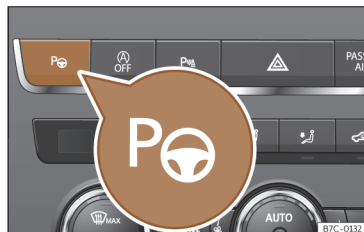

Fig. 170 In the upper part of the centre console: button to switch on the Park Assist system.
The components of the Park Assist system are the ultrasonic sensors located in the front and rear bumpers, the **P** and **Fig. 170** to switch the system on and off and the messages on the instrument cluster display.
After activating the Park Assist system and after detecting a parking space, the display on the instrument panel proposes a parking mode. The Park Assist system selects the parking mode automatically. The selected mode is shown on the instrument panel display >>> **Fig. 171**. The reduced display of other possible parking modes is also shown >>> **Fig. 172**. If the mode selected by the system does not correspond to the desired mode, you can select another mode by pressing the **P** button >>> **Fig. 170**.
- Press the P⊗ button >>> Fig. 170. A control lamp on the P⊗ button lights up when the system is switched on.